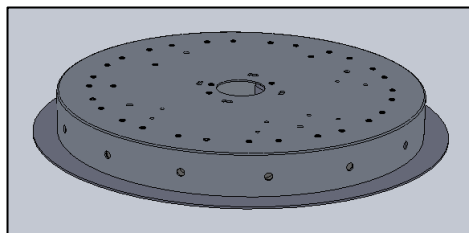

FIG. 5 CANOPY SUBASSEMBLY
3. CANOPY SUBASSEMBLY (as shown in FIG. 5).